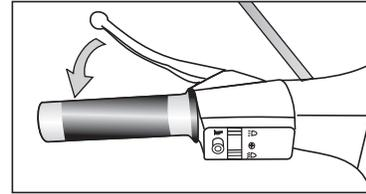

Fig. 16
5.1 **Rear Brake:** Operates on the rear wheel. Press hand brake lever towards the handle grip to apply the brake (Fig. 16).